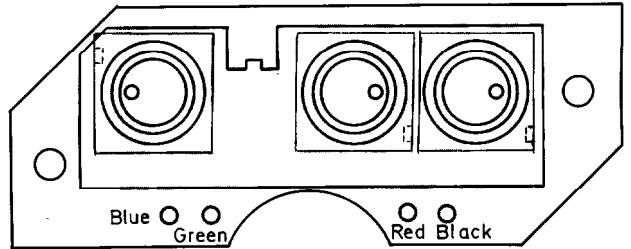

Fig. 7
- 7) If it becomes necessary to replace the switch of NASW-777 (Play, Repeat, Reject) for any reason, it is installed at the correct position as shown in fig. 7.